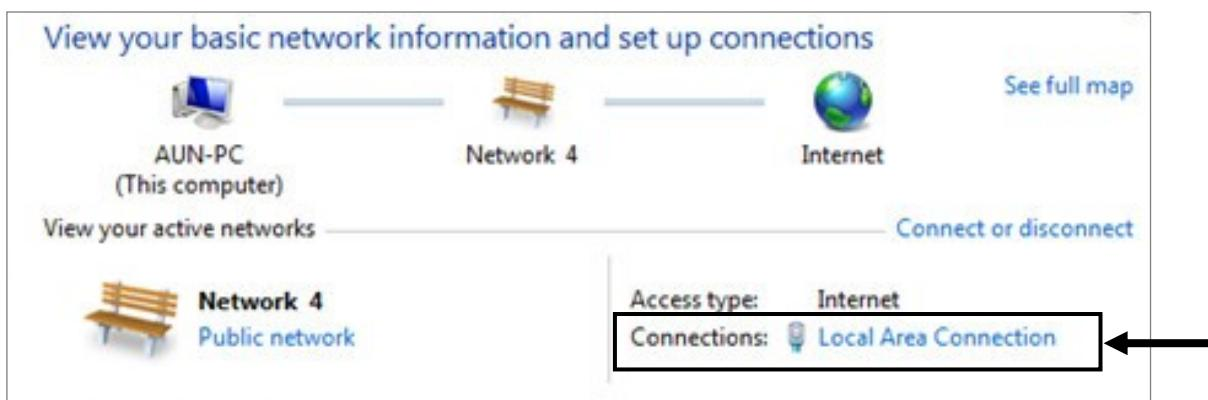

Fig 90. Click “Local Area Connection”
3. Click “Local Area Connection” (Fig 90).